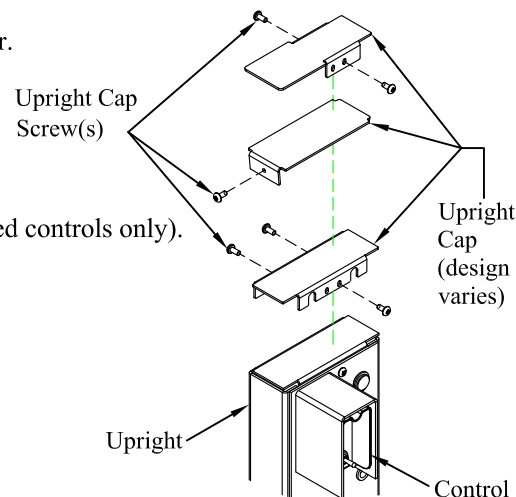

Figure 1: Upright cap.
4. **Remove** the upright caps (Figure 1). Upright cap design varies.